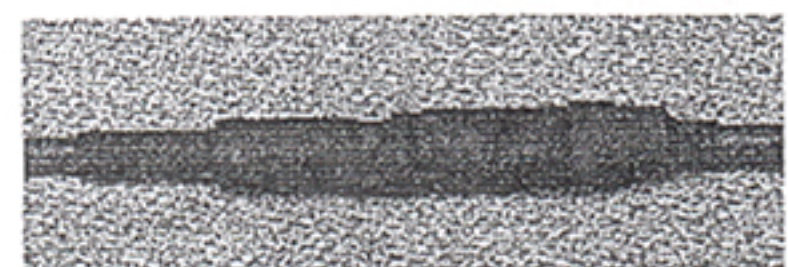

Figure 5.
10. Pull the shrink tape over the connection and heat with heat gun or hair dryer. See Figure 5